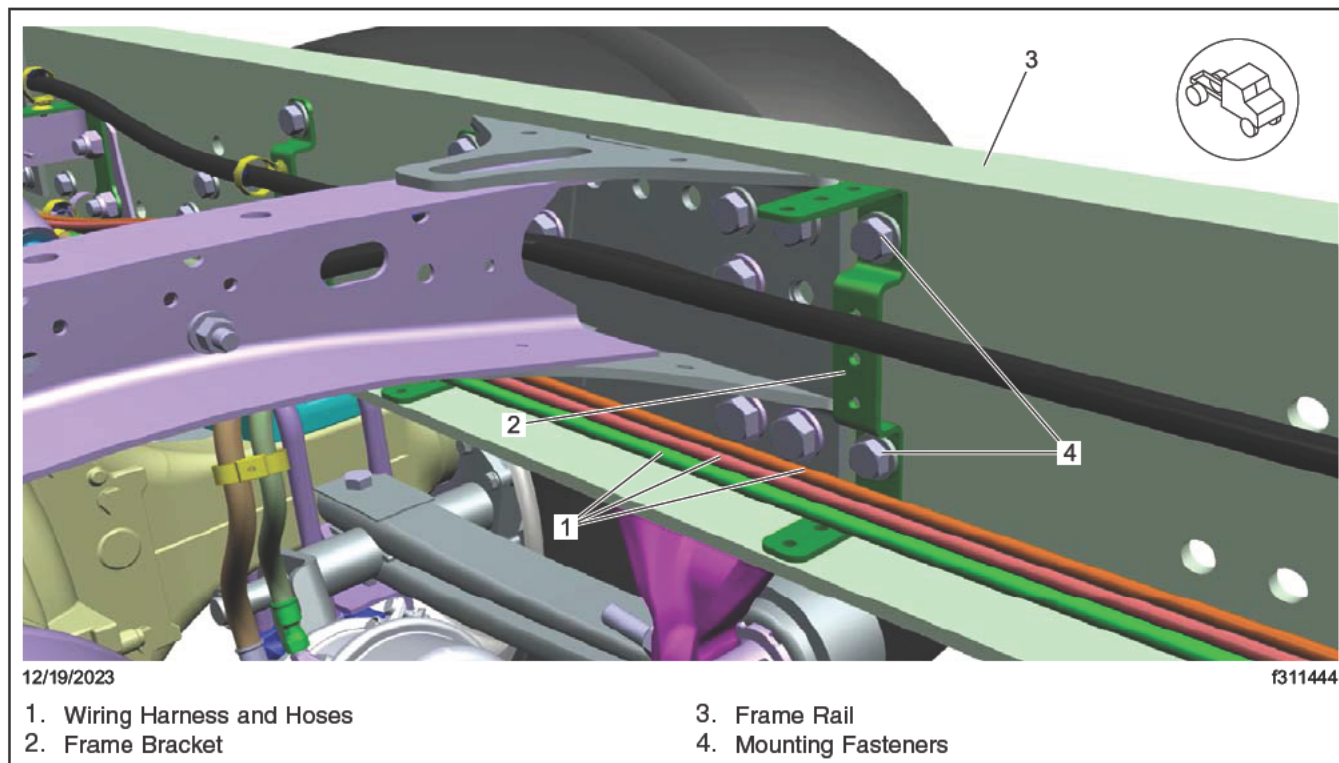
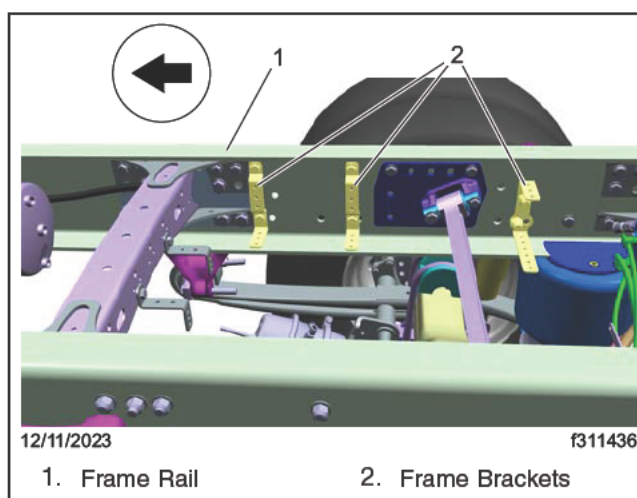

Fig. 42, Left-Hand Side Frame Brackets
Fig. 43, Right-Hand Side Frame Brackets
14. Drill three additional holes on the L-bracket before installing the crossmember using a mag drill. These holes are for the frame brackets in Fig. 42 and Fig. 43.